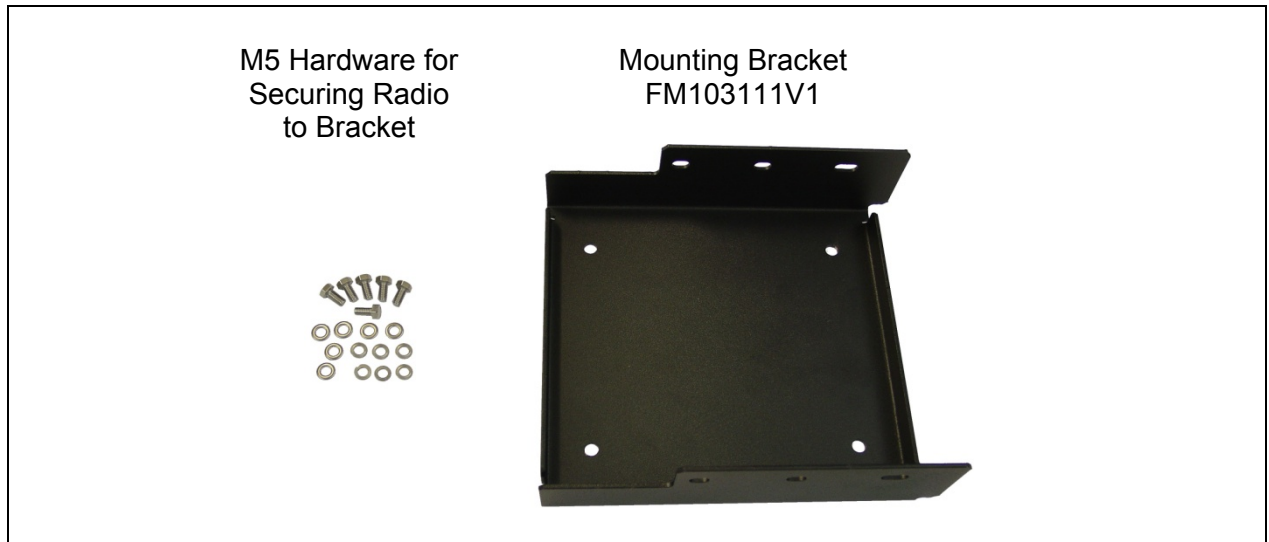

Figure 8-1: Remote-Mount Mounting Bracket Kit KT23117
The remote-mount radio's mounting bracket is included with the Remote-Mount Mounting Bracket Kit KT23117. Kit contents are shown in Figure 8-1. This is item 1 in the respective remote-mount installation kit (i.e., Table 4-4 for CH-100 control head and Table 4-5 for the CH-721 control head).